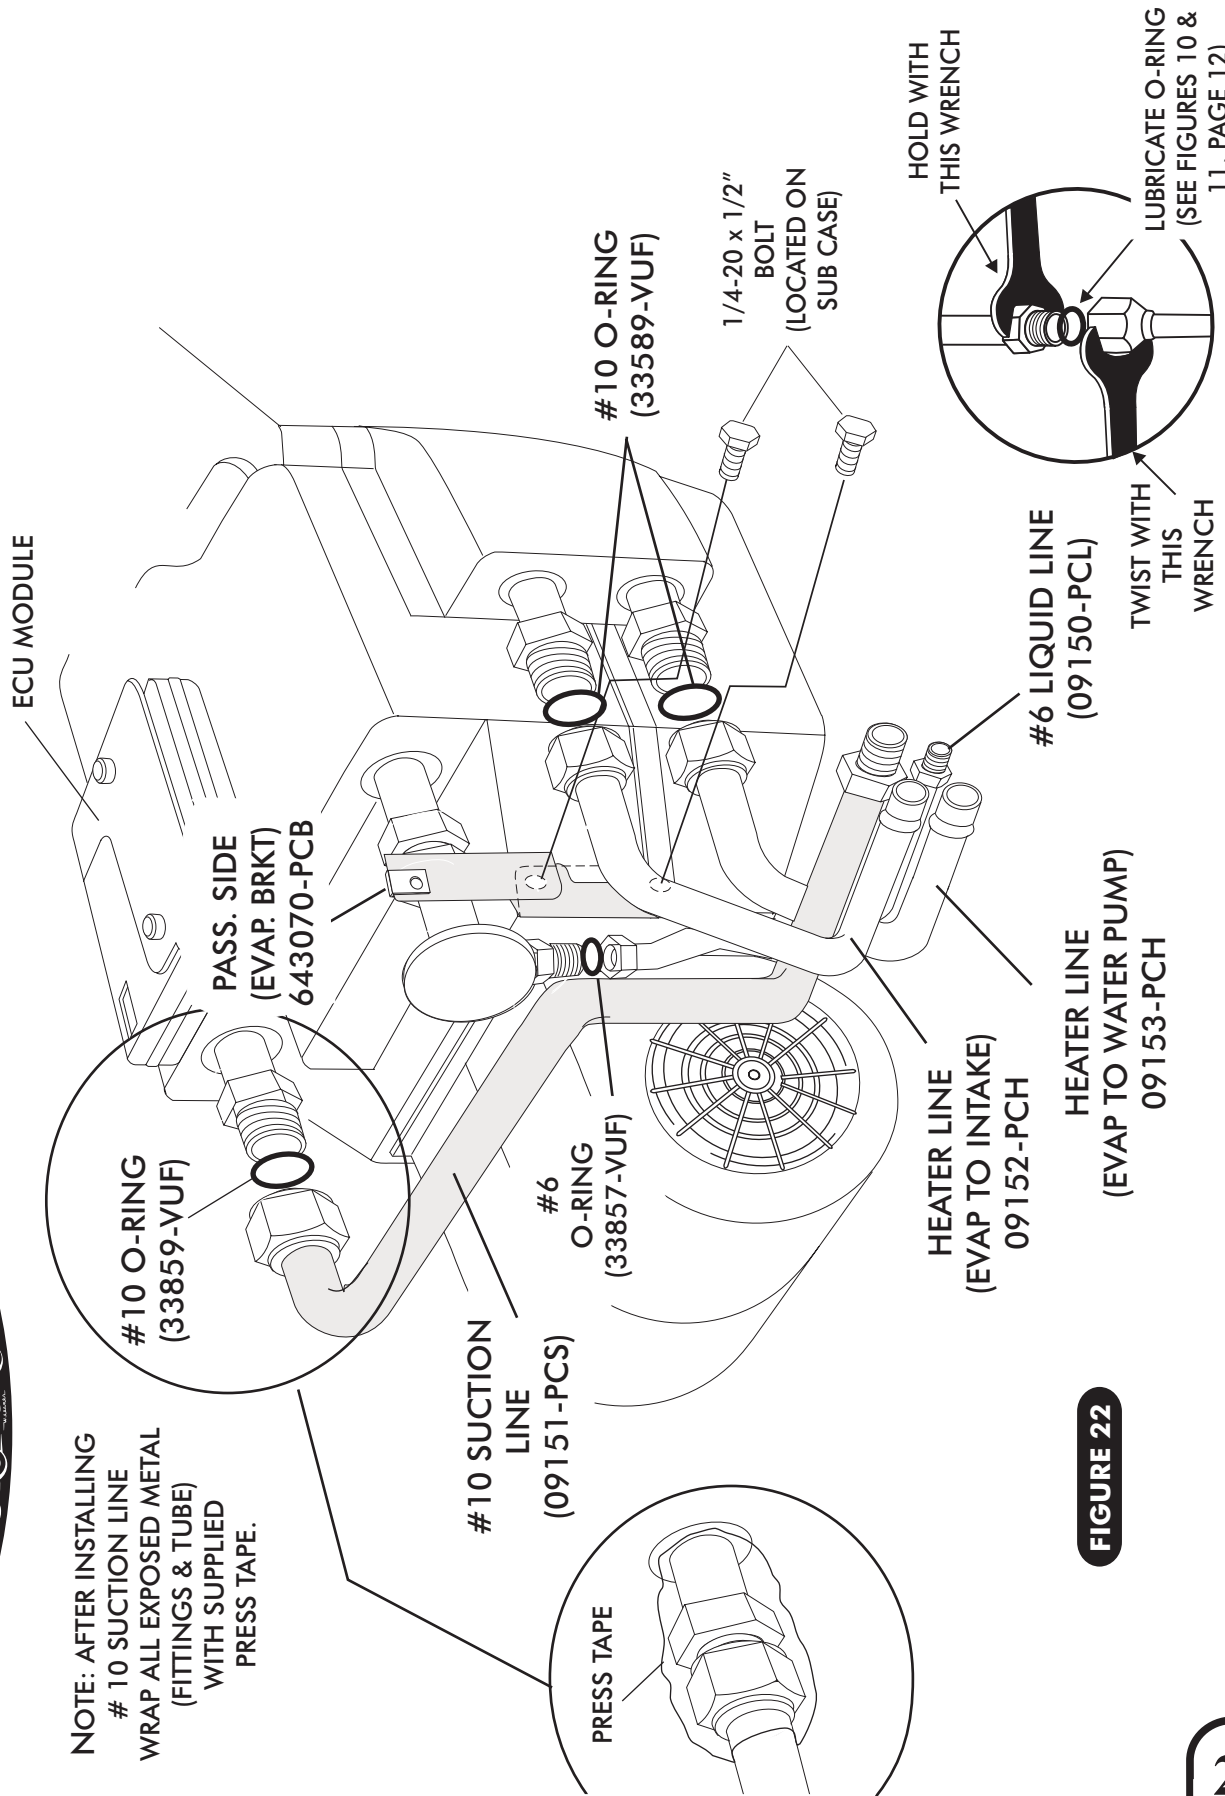

FIGURE 22
- ON A WORK BENCH, INSTALL EVAPORATOR REAR BRACKET, AND INSTALL EVAPORATOR HARDLINES WITH PROPERLY LUBRICATED O-RINGS. (SEE FIGURE 16, PAGE 17, AND FIGURES 22, PAGE 22.)